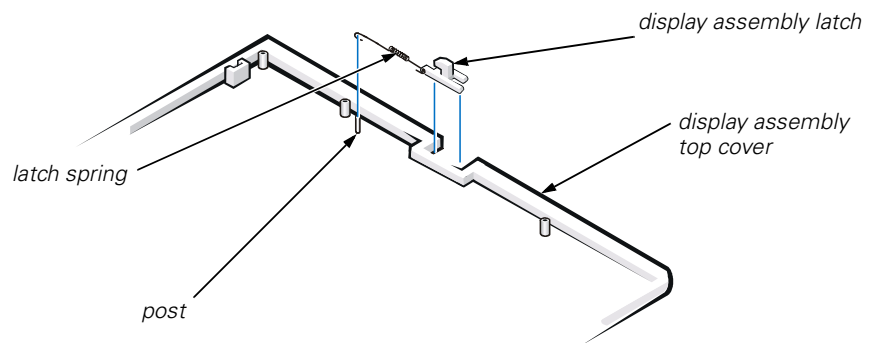

Figure 10. Display Assembly Latch Removal
2. Lift the display assembly latch off of the display-assembly top cover (see Figure 10).
3. Slide the latch spring off of the post on the display-assembly top cover (see Figure 10).